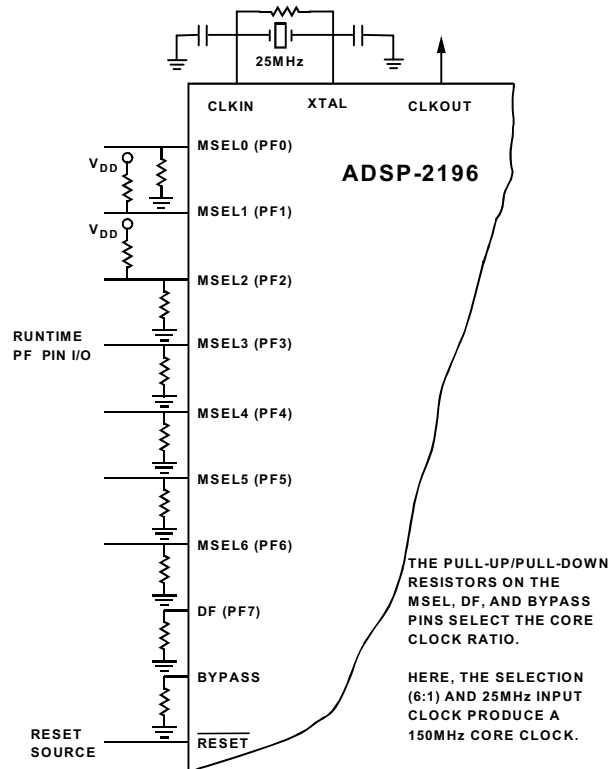

Figure 6. External Crystal Connections
The ADSP-2196 can be clocked by a crystal oscillator or a buffered, shaped clock derived from an external clock oscillator. If a crystal oscillator is used, the crystal should be connected across the CLKIN and XTAL pins, with two capacitors connected as shown in Figure 6. Capacitor values are dependent on crystal type and should be specified by the crystal manufacturer. A parallel-resonant, fundamental frequency, microprocessor-grade crystal should be used for this configuration.
The DSP provides a user-programmable $1\times$ to $32\times$ multiplication of the input clock, including some fractional values, to support 128 external to internal (DSP core) clock ratios. The MSEL6–0, BYPASS, and DF pins decide the PLL multiplication factor at reset. At runtime, the multiplication factor can be controlled in software. To support input clocks greater than 100 MHz, the PLL uses an additional input: the Divide Frequency (DF) pin. If the input clock is greater than 100 MHz, DF must be high. If the input clock is less than 100 MHz, DF must be low. The combination of pullup and pull-down resistors in Figure 6 set up a core clock ratio of 6:1, which produces a 150 MHz core clock from the 25 MHz input. For other clock multiplier settings, see the *ADSP-219x/2191 DSP Hardware Reference*.